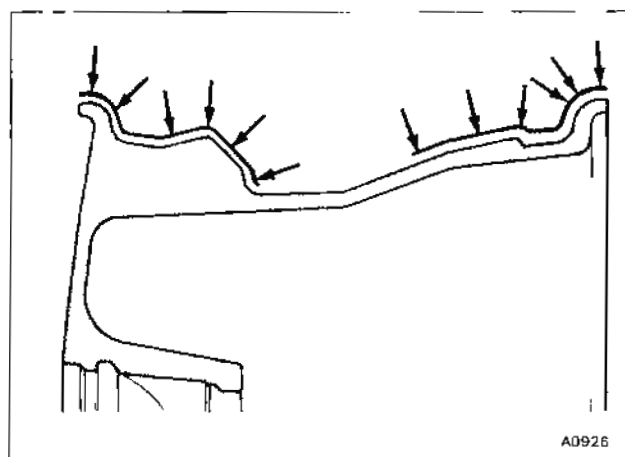

Fig. 2
- 2 Lubricate both wheel rim seat areas as shown in figure 2.